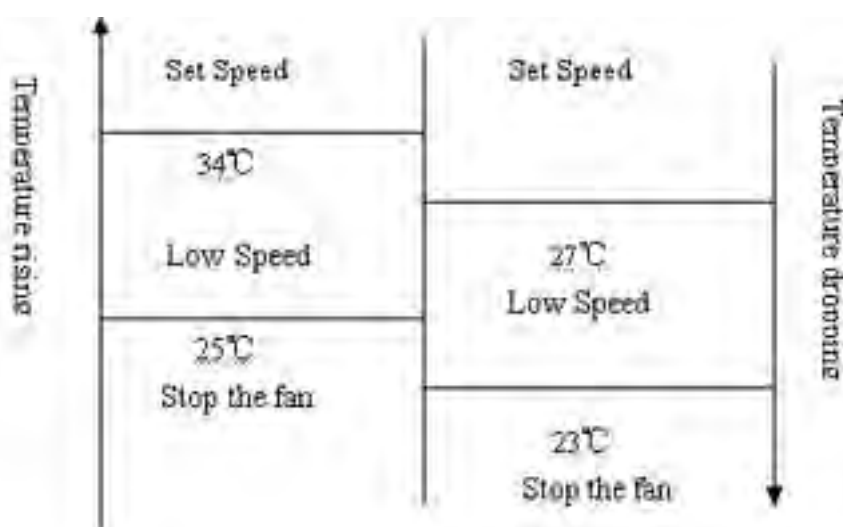

Figure 5 Anti-cold Wind
- When runing into the heating mode, once the compressor fails to comply with the start-up conditions, the wind speed is regulated according to the coil temperature in 2 min(including stopping the indoor fan motor), 2 min later the indoor fan motor stops.If the compressor starts up within 2 min, then operating by Figure 5.